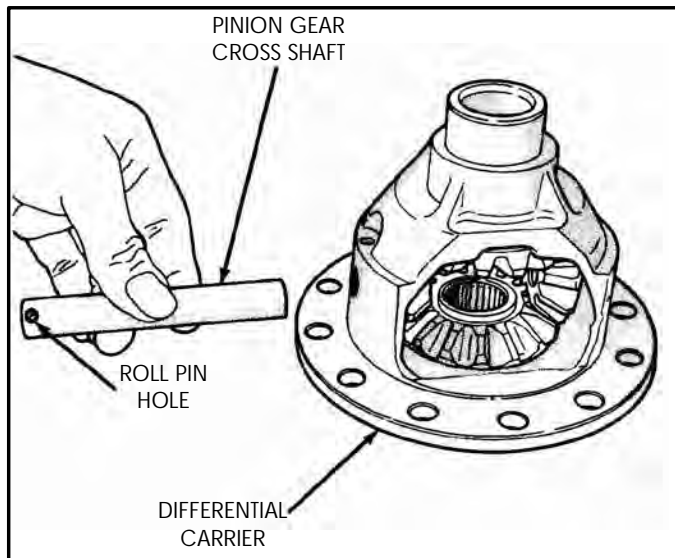

Figure 150
5. Remove or install pinion gear cross shaft, as shown in Figure 150.